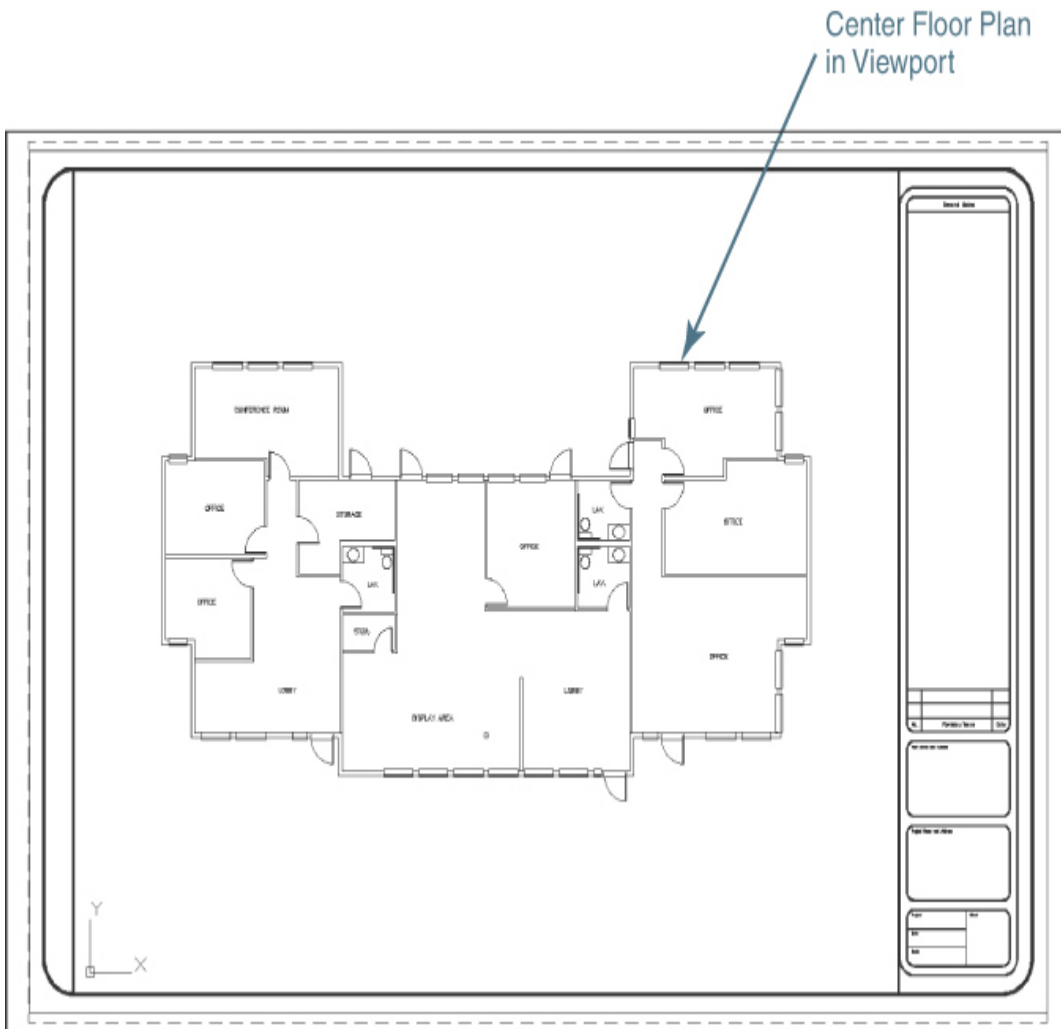

Figure 14-43
- 6 Set the viewport scale to **1/4" = 1'-0"** using the techniques learned in Exercise 14-3, and center the floor plan in the viewport so it looks similar to Figure 14-43.